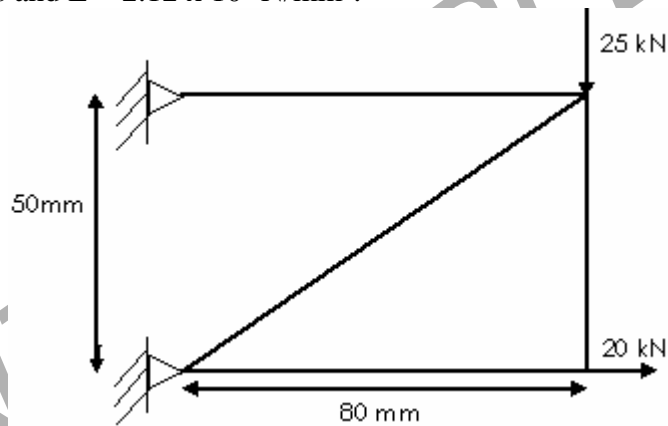

Figure: 1
3. Consider the plane truss system shown in Figure 1. Determine the element stiffness matrix for each element and assemble the global stiffness matrix for the entire truss. Area = 500 mm² for all elements and $E = 2.12 \times 10^5 \text{ N/mm}^2$. [16]